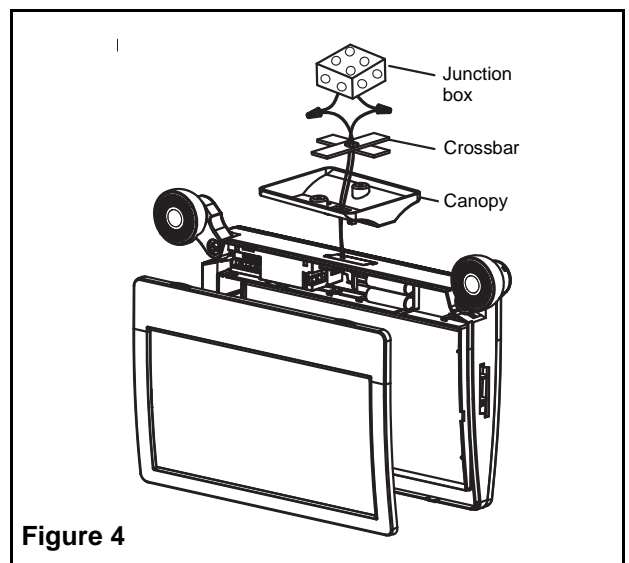

Figure 4
- b. Remove the mounting hole cover from the top or side of the unit depending on your mounting configuration (see figures 4 or 5).